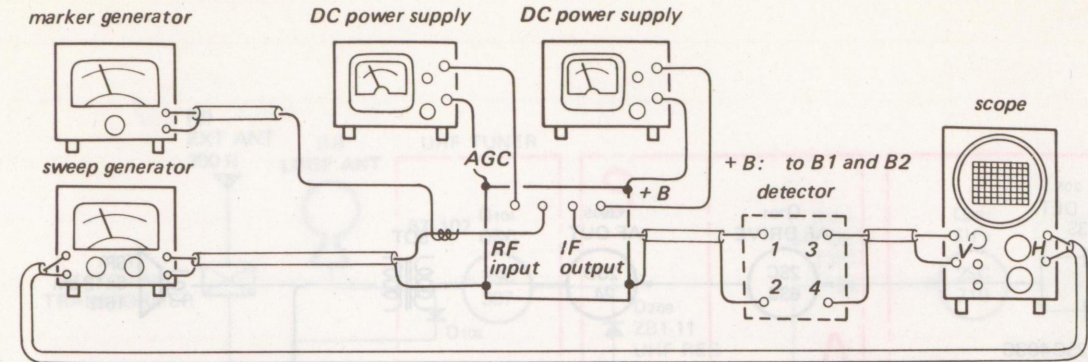

Fig. 5-15. Equipment setup
- 1. Connect a sweep generator and a marker generator to rf input terminal of tuner as shown in Fig. 5-15.
- 2. Connect a scope to i-f output terminal through a detector as shown in Fig. 5-15.
- 3. Connect a dc power supply to +B terminal for supplying 12 V dc. (See Fig. 5-15.)
- 4. Connect an another dc power supply to agc terminal for supplying 1.6 V dc. (See Fig. 5-15.)